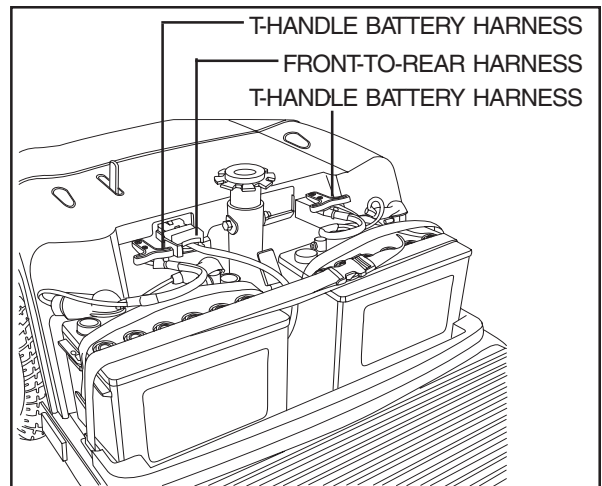

Figure 17. Harness Connections
5. Unplug both T-handle battery harnesses. See figure 17.
7. Unplug the front-to-rear harness. See figure 17.